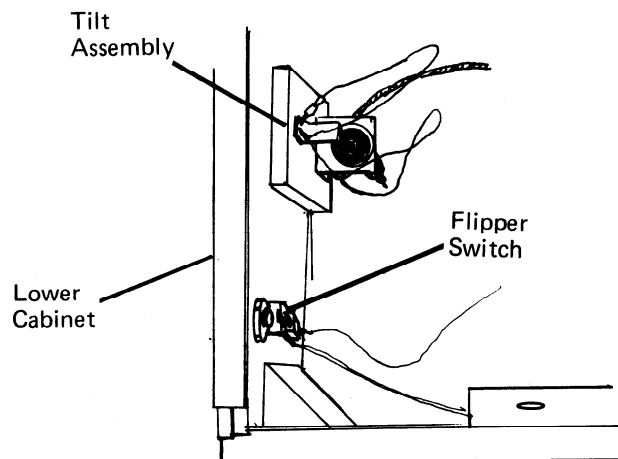

FIGURE 16
20. Inspect all wiring leading to the tilt mechanism for possible breaks or loose connections (Figure 16).